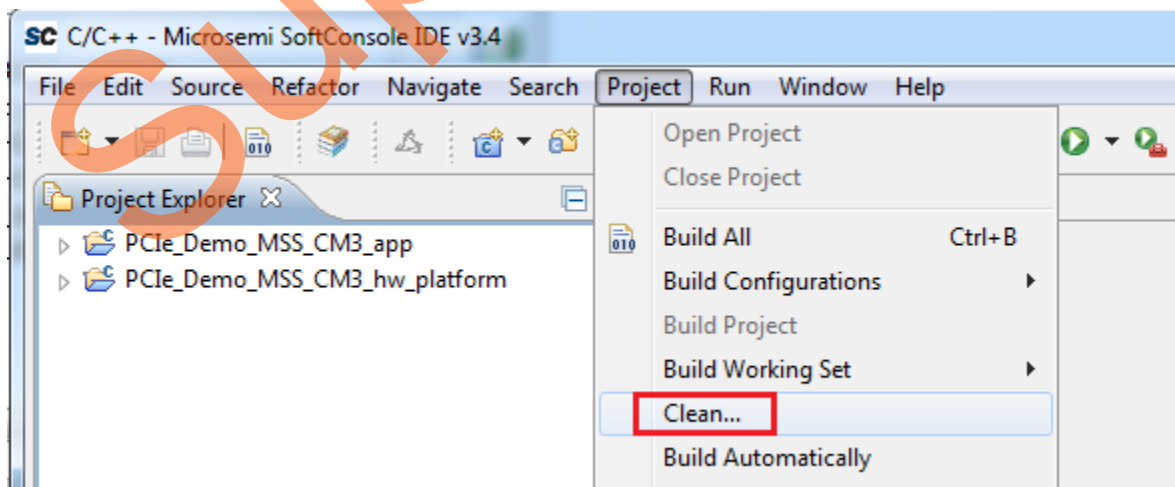

Figure 38 • Building the SoftConsole Project
10. To clean and build the project, select **Project > Clean** as shown in Figure 38.